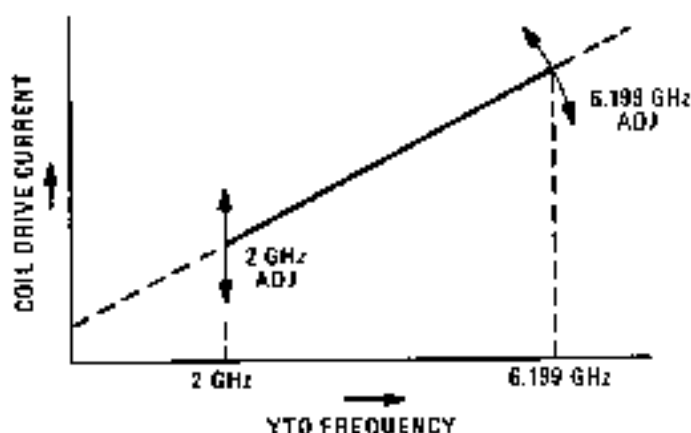

Figure 8-73. YTO Frequency versus Coil Drive Current
**Input Amplifier.** The YTO Pretune Voltage is amplified by the Input Amplifier (a discrete component operational amplifier). The output voltage appears at the Coil Driver's non-inverting output and therefore across the Sense Resistor. A portion of this voltage is returned to the Input Amplifier's inverting input. This return voltage is adjustable to allow for variation in the frequency-to-voltage sensitivity of different Oscillators. See Figure 8-73. RC network C4 and R10 provide compensation to prevent high frequency oscillation.